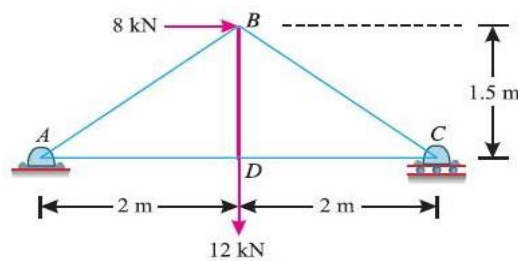

fig.33
7. Fig 33 shows a framed structure of 4 m span and 1.5 m height subjected to two-point loads at B and D. [10 M]